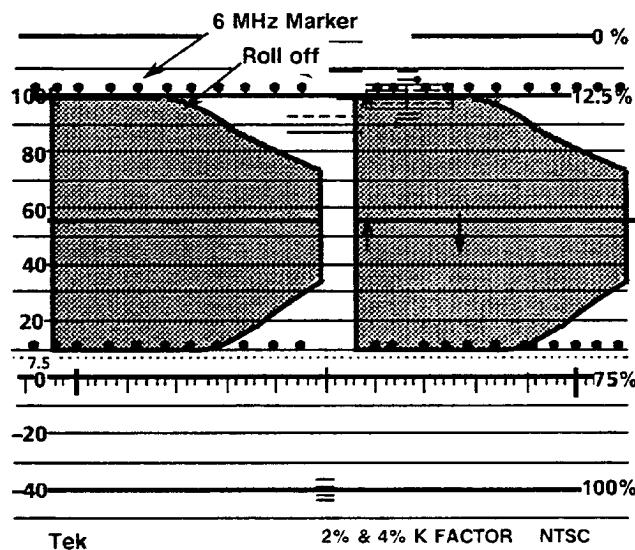

Figure 7-9: Adjusting for best flat response
- f. Adjust A3C147 (CH1 Input Comp) for flat response at 6 MHz on the 1730D. See Figure 7-9.